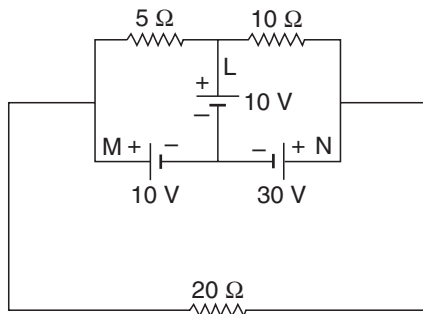

Fig. 62
20. Determine the currents in the three batteries (L , M and N) in the network shown in Fig. 62 and show their values and direction of flow on the diagram. Neglect the internal resistance of batteries. [Ans. $2\ \text{A}$, $1\ \text{A}$, $0\ \text{A}$]